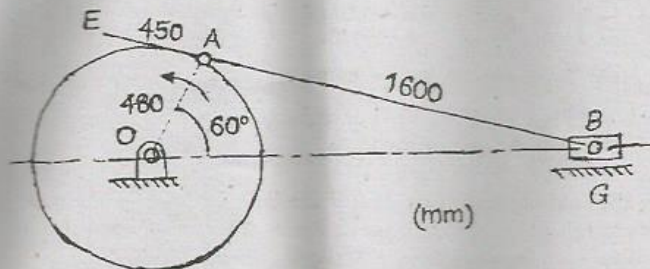

Fig. 12 (a)
- (b) (i) Explain mechanical advantage and transmission angle related to four bar mechanism. (8)
- (ii) Explain the Ratchet and Escapism mechanism with neat diagram. (8)
12. (a) For the configuration of a slider crank mechanism shown in fig.12 (a) Calculate (i) the acceleration of the slider at B (ii) the acceleration of point E (iii) the angular acceleration of link AB. Link OA rotates at 20 rad/s count er clockwise (16)